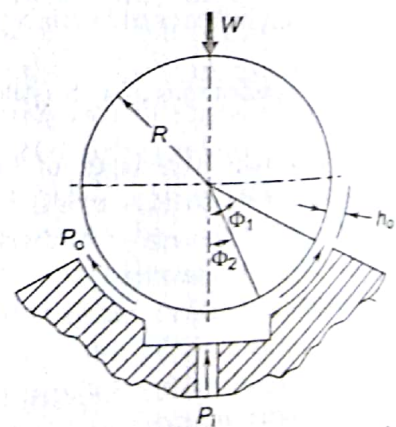

Fig. 16.37 Spherical step bearing
- 16.4 ③ A hydrostatic spherical step bearing is shown in Fig. 16.37. Show that the load carrying capacity of the bearing is given by [LO 3]